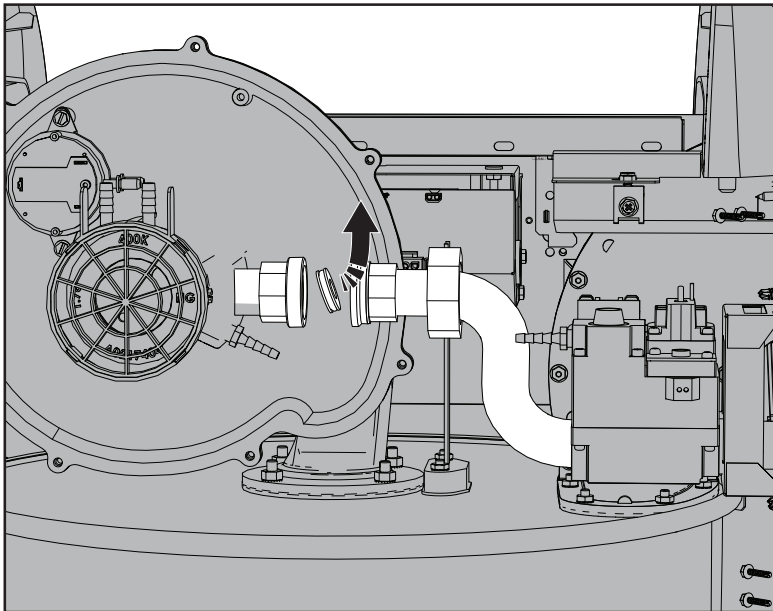

Figure 30. Remove the Gas Orifice
12. Use a blunt tool, such as a key or a Phillips head screwdriver, to pry the gas orifice and O-ring out of the union (see Figure 30).